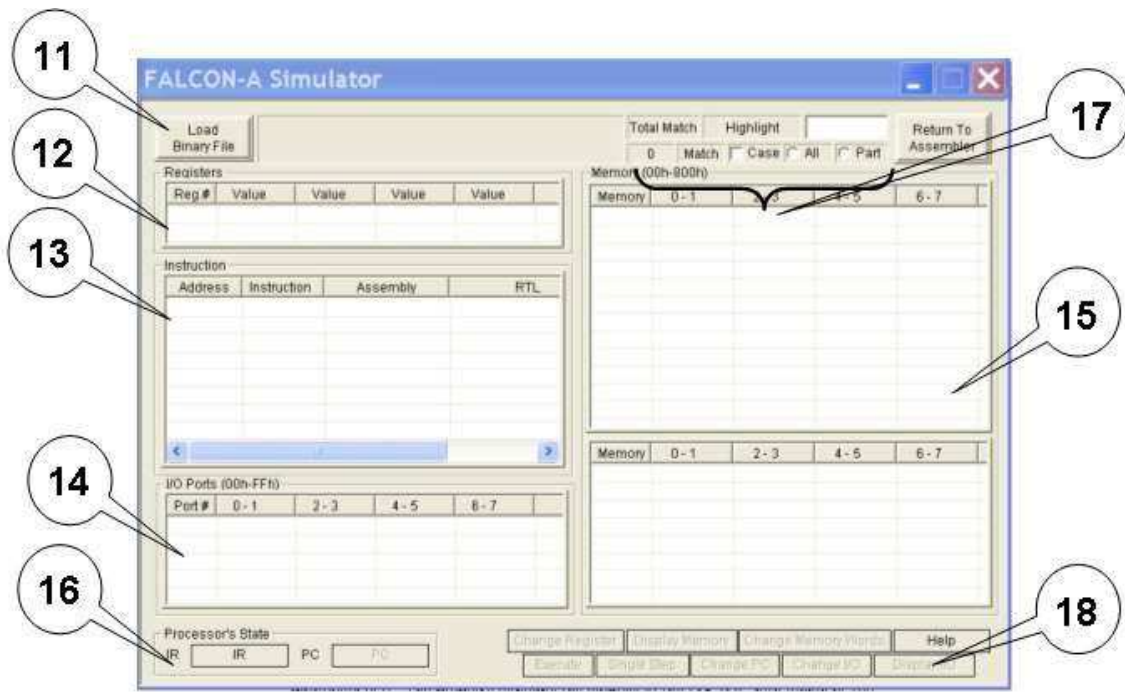

Figure 6
Figure 6 shows a snapshot of the GUI for the FALCON-A Simulator. This tool loads a FALCON-A binary file with a (.binfa) extension and presents its contents into different areas of the simulator. It allows the user to execute the program to a specific point within a time frame or just executes it, line by line. It also allows the user to view the registers, I/O port values and memory contents as the instructions execute.
*Load Binary File:* The button labeled as “11” in Figure 6, allows the user to choose and open a FALCON-A binary file with a (.binfa) extension. When a file is being loaded into the simulator all the register, constants (if any) and memory values are set.
*Registers:* The area labeled as “12” in Figure 6. enables, the user to see values present in different registers before, during and after execution.
*Instruction:* This area is labeled as “13” in Figure 6 and contains the value of PC, address of an instruction, its representation in Assembly, the Register Transfer Language, the op-code and the instruction type.
*I/O Ports:* I/O ports are labeled as “14” in Figure 6. These ports are available for the user to enter input operation values and visualize output operation values whenever an I/O operation takes place in the program. The input value for an input operation is given by the user before an instruction executes. The output values are visible in the I/O port area once the instruction has successfully executed.
*Memory:* The memory is divided into two areas and is labeled as “15” in Figure 6, to facilitate the view of data stored at different memory locations before, during and after program execution.
*Processor’s State:* Labeled as “16” in Figure 6, this area shows the current values of the Instruction Register and the Program Counter while the program executes.
*Highlight:* The highlight option for the FALCON-A simulator is labeled as “17” in Figure 6. This feature is similar to the way the highlight feature of the FALCON-A Assembler works. It offers to highlight the search string which is entered as an input, with the “All “ and “ Part “ option. The results of the search are highlighted using the yellow color. It also indicates the total number of matches.
The following is a description of the options available on the button panel labeled as “18” in Figure 6.
- To start the simulator, click on the start simulation button labeled as “6”. This will open the dialog box shown in Figure 6.